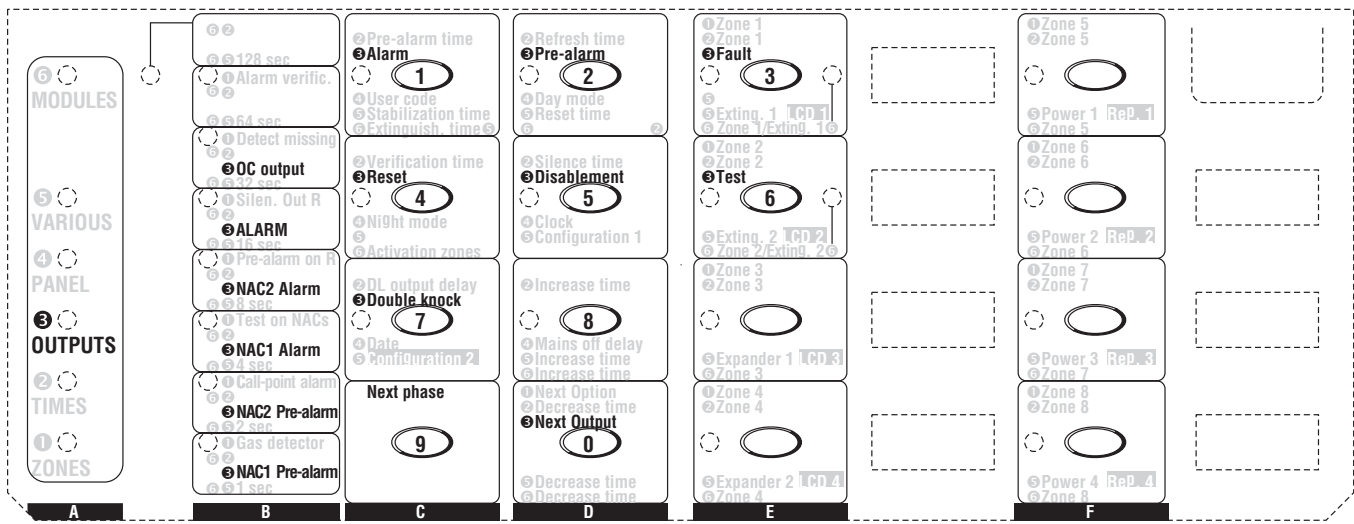

Figure 31 The “Outputs” Programming Phase
The **OUTPUTS** LED will blink to indicate that the system is ready to configure the Output Pulse Pattern (represented by LEDs 1 through 8, each LED representing a second period in the pattern). During this phase, the keys and LEDs will operate in accordance with the options preceded by ③ in the panes on the Programming Overlay, see Figure 31.